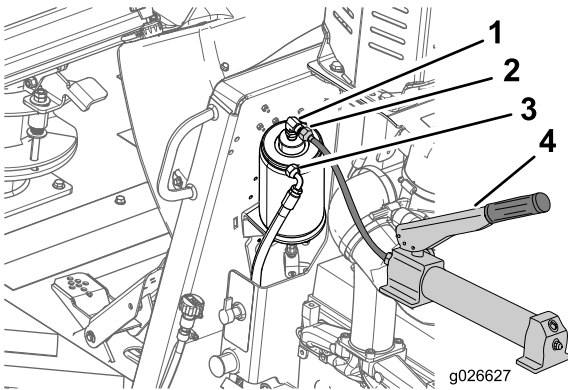

Figure 29
1. Disconnect the hydraulic hose from the parking brake cylinder as shown in Figure 29.
2. Connect a hydraulic-hand pump capable of producing 350 psi to the brake cylinder (Figure 29).